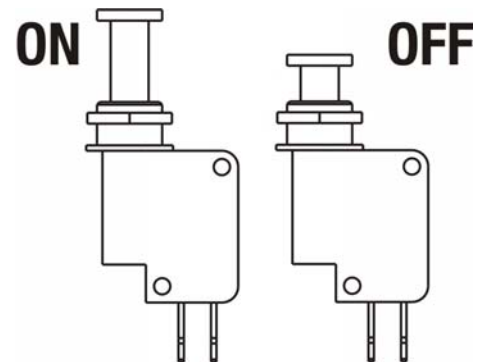

Fig. 21
- ➔ Pull ON/OFF switch out. Now the ignition circuit is closed and the battery supplies the ignition system with voltage (Fig. 21).